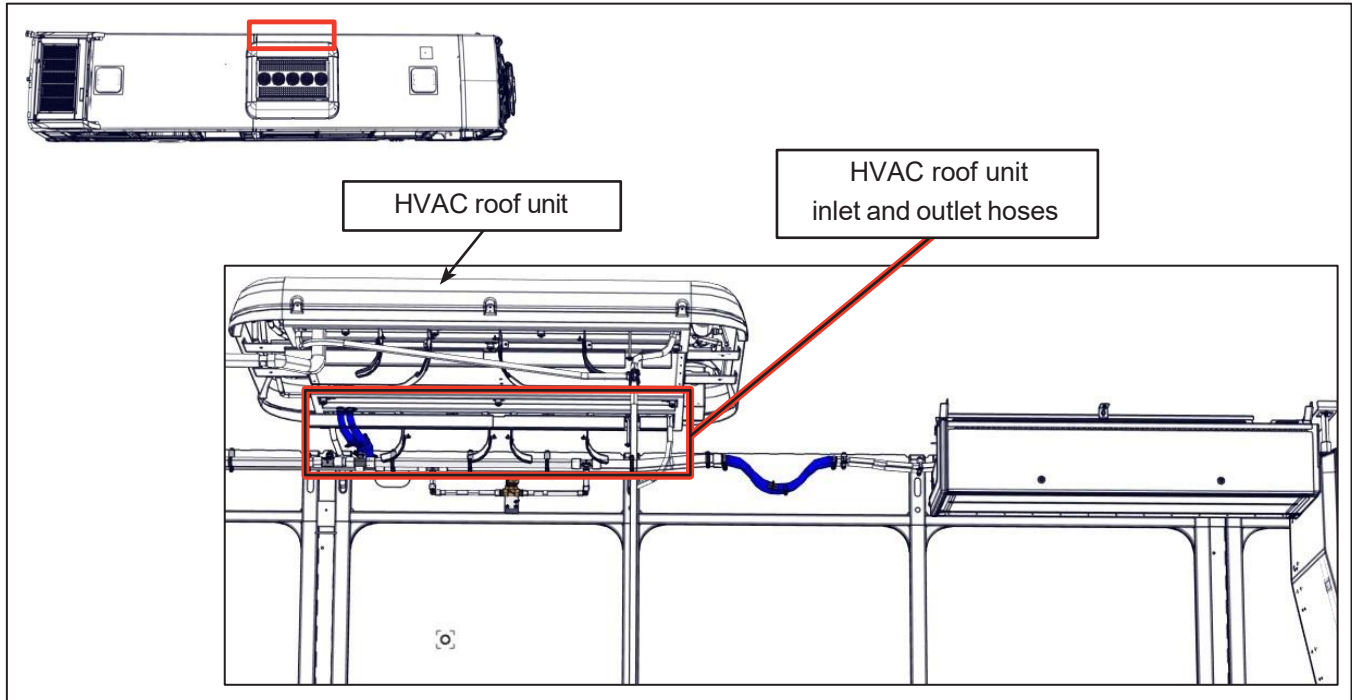

Figure 1 - Location of the Inlet and Outlet Coolant Hoses of the HVAC Roof Unit
- 1.5. Locate and access the silicone hoses for the coolant inlet and outlet of the HVAC roof unit (Figures 1 and 2).